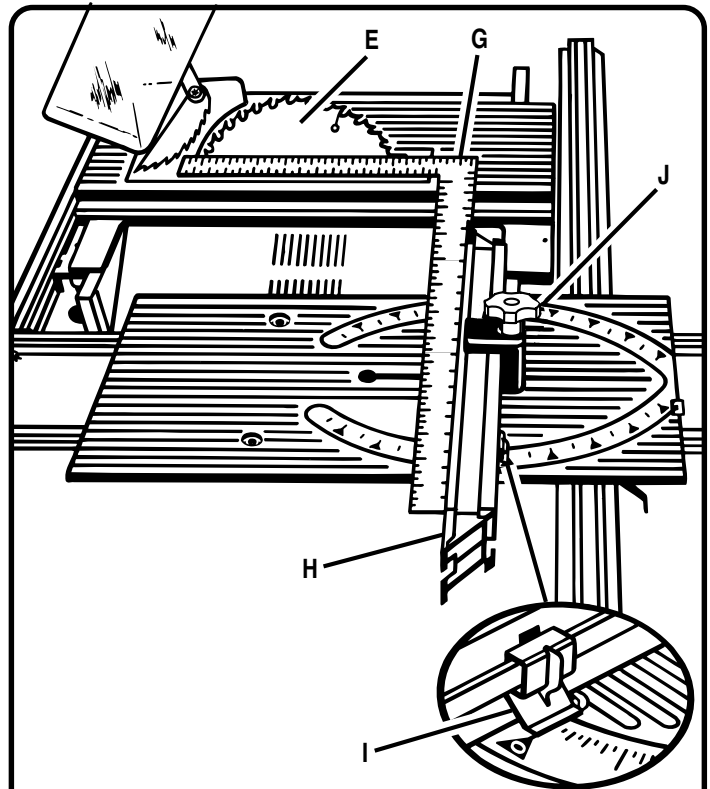

Fig. 53
See Figure 53.
- Set the miter fence (H) at 0° as shown in figure 53. Miter indicator (I) should be set precisely on 0° and secured in place with adjusting clamp (J).
- Place a framing square (G) firmly against the miter fence (H) with the other side against the blade (E).
- Set the miter fence (H) at  $0^\circ$  as shown in figure 53. Miter indicator (I) should be set precisely on  $0^\circ$  and secured in place with adjusting clamp (J).